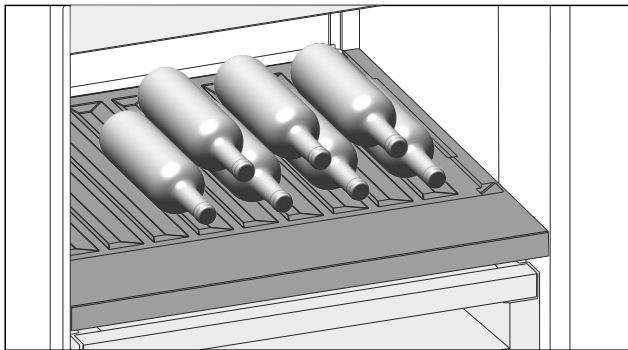

Fig. 166 Example illustration
- Place bottles in the back row with their bases against the back wall. (see Fig. 166)